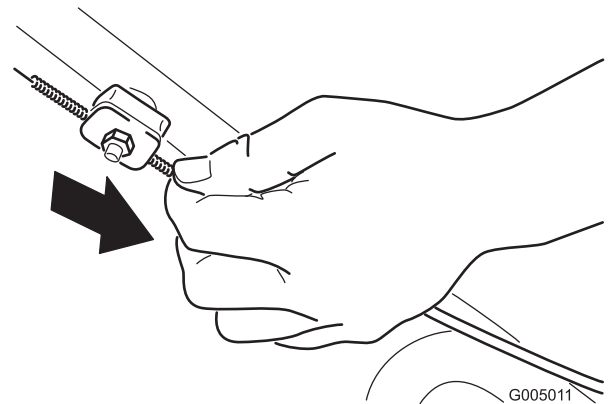

Figure 6
10. Pull the cable jacket down (toward the machine) until there is no slack in the cable (Figure 6).